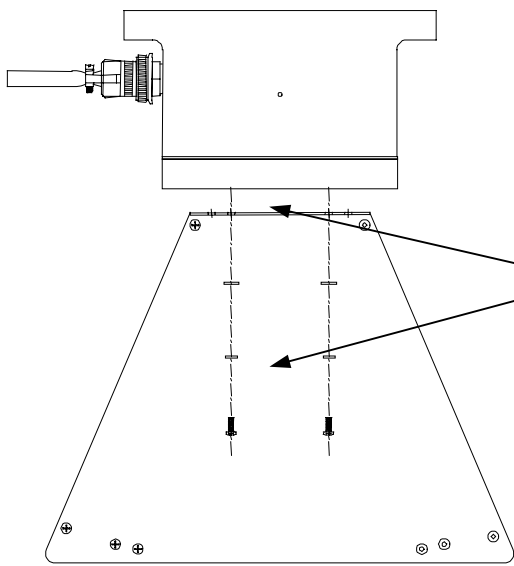

Figure C.6-11: Horn Blinder Screw Assembly on Model 10XR-UT ULTRA-TOUGH™ Receiver
- 5) Insert the four mounting screws into the bezel and finger tighten {Figure C.6-11}.